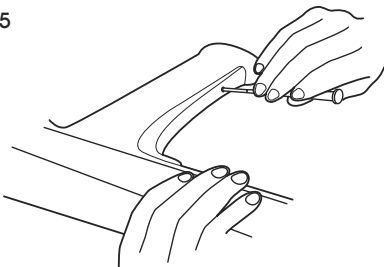

Figure 5
1. Gas valve opening is adjusted by the adjustment screw. (See Figure 5)